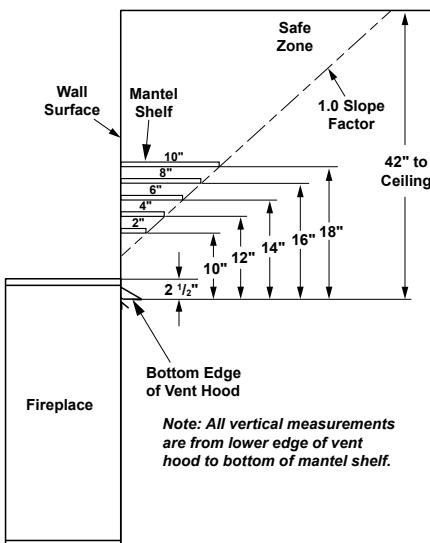
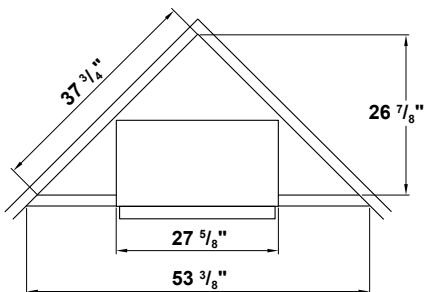

Figure 7 - Fireplace Clearances
Figure 9 - Rough Opening for Corner Installation
1. Frame in rough opening. Use dimensions shown in Figure 7 for the rough opening. If installing in a corner, use dimensions shown in Figure 9, for the rough opening. The height is 23 1/4", which is the same as the wall opening above.